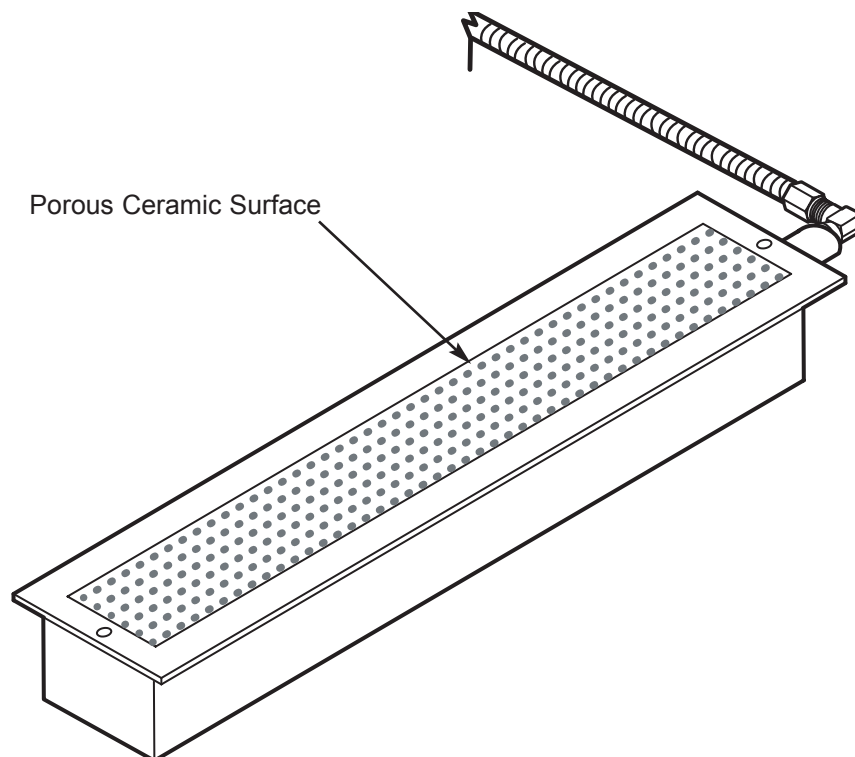

Fig.2-4
**Infrared Burner** - All Wolf gas BBQ's use an infrared burner for the rotisserie. This infrared burner is a porous refractory ceramic tile burner, similar to the infrared burner used in the ranges and cooktops. (See Figure 2-4) With infrared heat, thermal energy is transmitted through space without heating the medium through which it travels. Infrared energy is usually not affected by air flowing between the burners and heated surfaces because of the burner's numerous and tiny flames. This type of heat is very efficient and compact. The refractory ceramic infrared burner requires 100 percent primary air and is designed to have a hot glowing burner surface. The flame burns close to the burner surface at a high temperature.